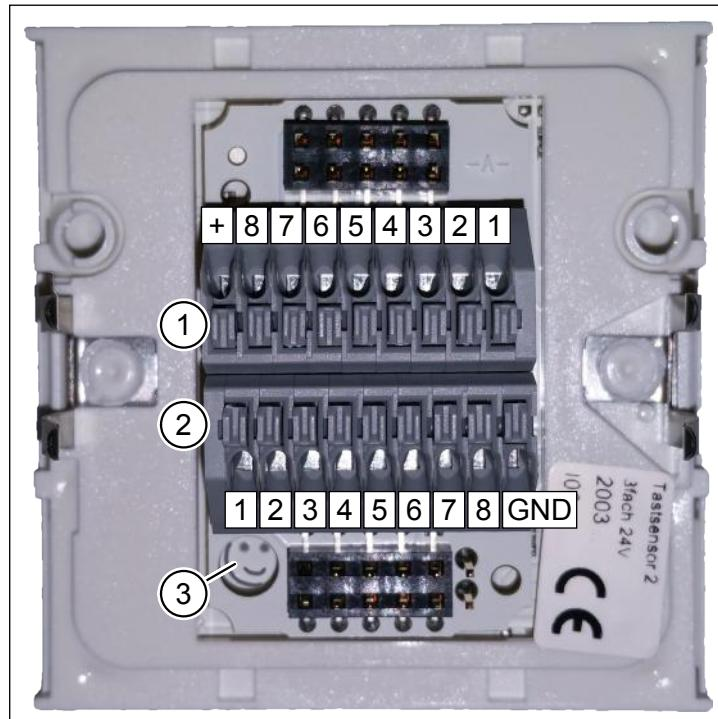
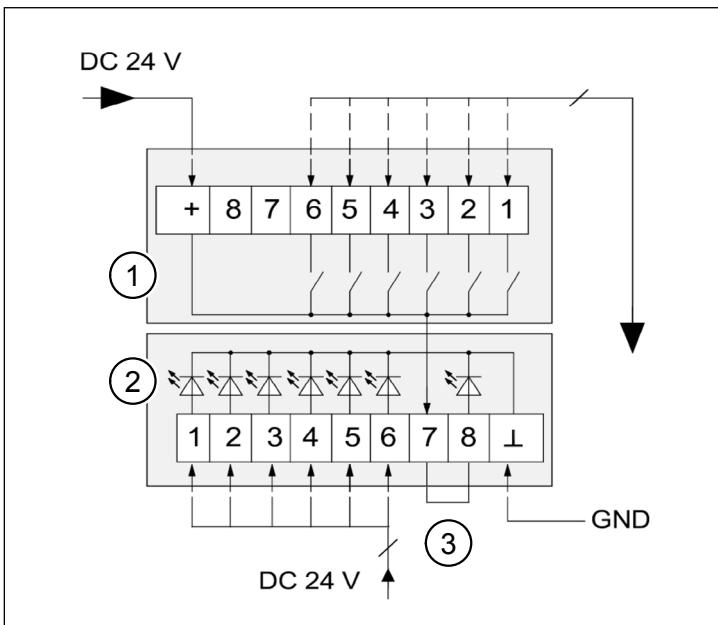

Fig. 3: Back panel with terminal blocks
Fig. 4: InControl pushbutton sensor connection diagram
- Use the smiley (item 3 in Fig. 3) as an orientation guide. It is only in this position that the connections on the terminal blocks agree with the connections identified in the connection diagram (Fig. 4).
- The InControl pushbutton sensor has a backlight that can be activated if required. Place a bridge (item 3 in Fig. 4) across terminals 7 and 8 of the terminal block for LEDs to supply 24 V DC to the backlight.